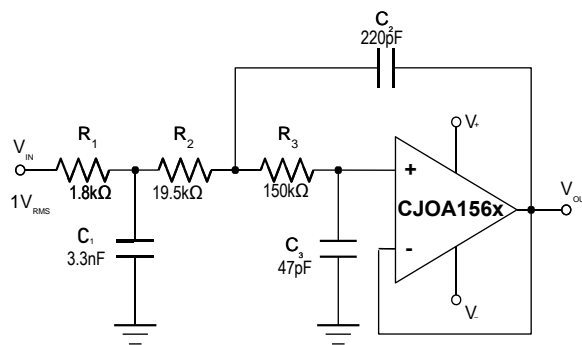

Figure 9-5. Configured as a Three-Pole, 20kHz, Sallen-Key Filter
3. using a non-inverting filter topology, such as the Sallen-Key (shown in Figure 9-5).